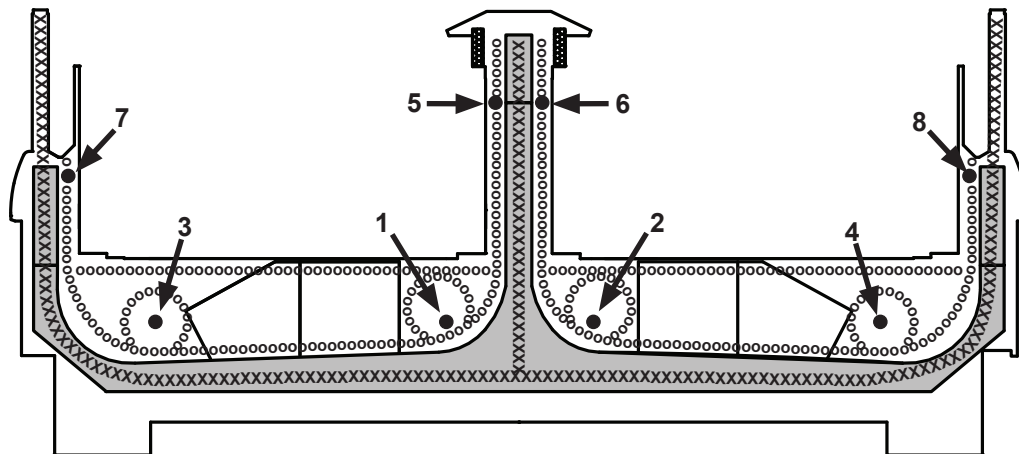

Fig. 4 Bolt holes locations; foam gasket and sealant
5. Seal the case-to-case joints with caulk (supplied), then apply acrylic tape (supplied) over the pipe-chase seam (Fig. 4). The tape acts as a watershed preventing water from settling in the case joint.